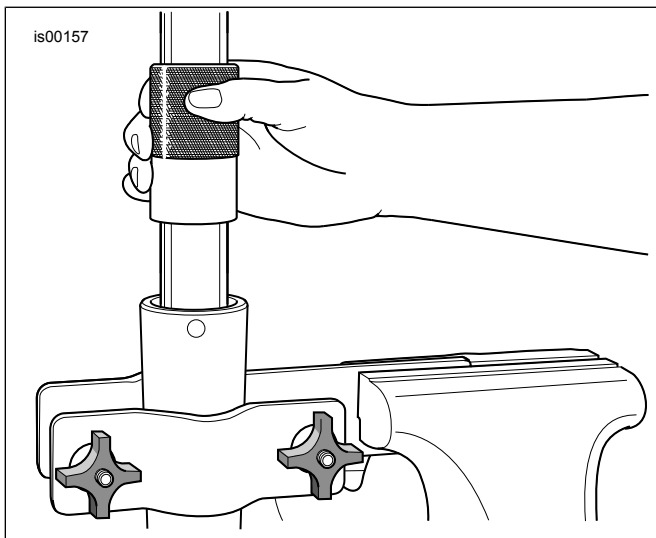
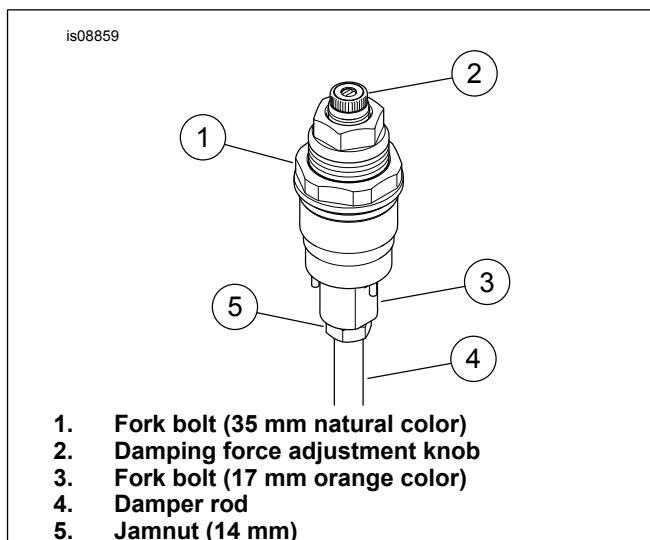

Figure 1. Install Fork Oil Seal
Figure 6. Fork Bolt Assembly
1. Unless already installed, coat new fork slide bushing (11) ID with clean fork oil. Expand fork slide bushing at split line only as far as required to slip over end and into groove of fork tube (6).
2. Install fork slider (F or K) in fork tube holder. Slide fork tube (6) into fork slider.
3. Coat inner diameter (ID) and outer diameter (OD) of guide bushing (E) with clean fork oil. Slide guide bushing down fork tube (6) (either direction).
4. Slide seal spacer (D) down fork tube until it contacts guide bushing (either direction).
5. Coat the ID of the **new** fork oil seal (2) with clean fork oil. Coat the OD of the fork oil seal with Harley-Davidson Seal Grease. With the lettering side facing up, slide fork oil seal down the fork tube until it contacts the seal spacer.
6. See Figure 1. Obtain the Fork Seal/Bushing Tool (HD-36583) and proceed:
- c. Slide the stopper ring (C) down the fork tube until it contacts the fork oil seal. Install stopper ring in the fork slider groove. Do not expand or stretch stopper ring to install on fork tube or ring could be damaged.
9. See Figure 6. Remove fork bolt (3) from damper rod (4) by loosening jamnut (5). The jamnut is to remain on damper rod.
11. Install oil lock (8) over the end of the damper cartridge (7 or 10).
14. Apply threadlocker to **new** screw (9).
28. See Figure 6. Install and assemble fork bolt.
- a. Bottom out the jamnut (5) on the damper rod (4).
- b. Make sure that the damping force adjustment knob (2) is bottomed out on fork bolt before install.
- d. Install fork bolt (3) with needle rod into the damper rod (4) slowly. Hand tighten the fork bolt to the damper rod until fork bolt is bottomed out on the damper rod.
- e. Turn jamnut (5) until it makes firm contact with fork bolt (3). Tighten and torque jamnut (14 mm) to fork bolt (17 mm). 20 ± 2.5 N·m (15 ± 1.8 ft-lbs)
- f. Tighten fork bolt (1)(35 mm natural color) to fork bolt (3)(17 mm orange color). 35 ± 5 N·m (26 ± 3.7 ft-lbs)